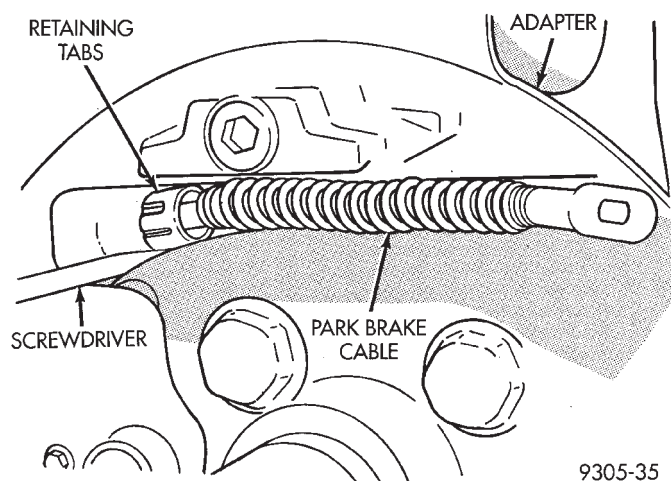

Fig. 2 Removing Park Brake Cable From Adapter
(5) Remove park brake cable from adapter using the following procedure. Compress retaining tabs on park brake cable housing using a small screwdriver (Fig. 2) while pulling and rotating park brake cable until cable is removed from cable mounting hole in adapter.